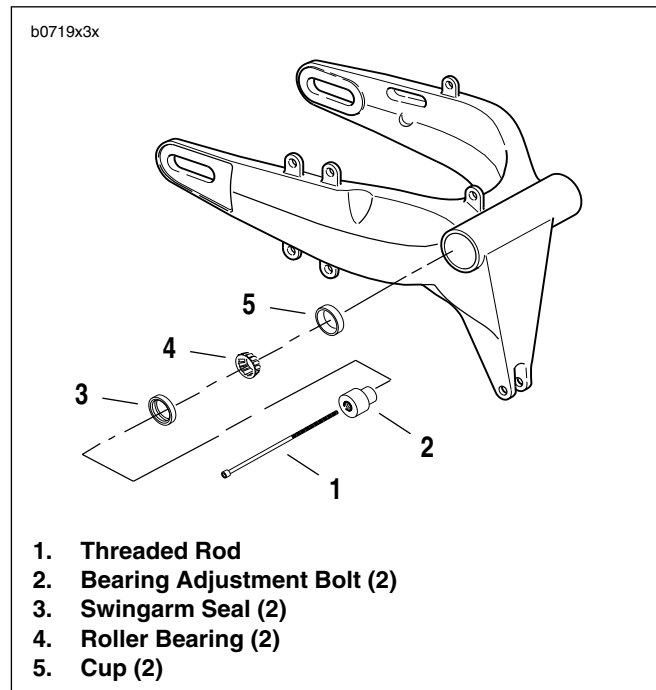

Figure 2-75. Swingarm Bearings
1. See Figure 2-75. Remove and discard both swingarm seals (3).
2. Remove roller bearings (4).
3. See Figure 2-75. Install **new** swingarm seals (3) flush to the swingarm.